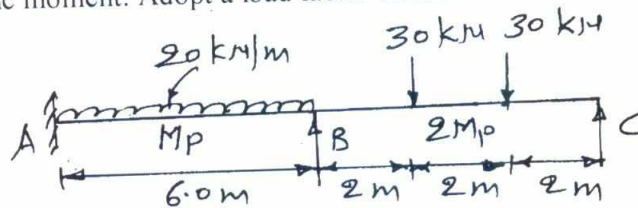

Fig Q4 (b)
- b. Analyze the continuous beam ABC subjected to working loads shown in Fig Q4(b) and determine the plastic moment. Adopt a load factor of 1.85. (14 Marks)